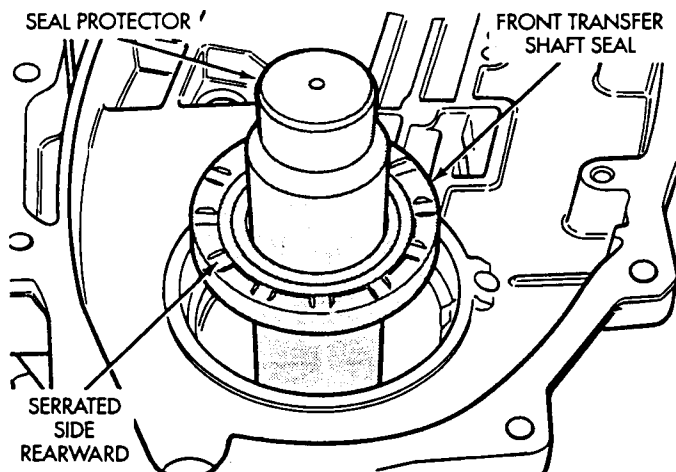

Fig. 26 Correct Seal Orientation
(30) Apply a small amount of lube to seal lips and install front transfer shaft seal. The serrated edges must face toward the rear of the transaxle (Fig. 26).